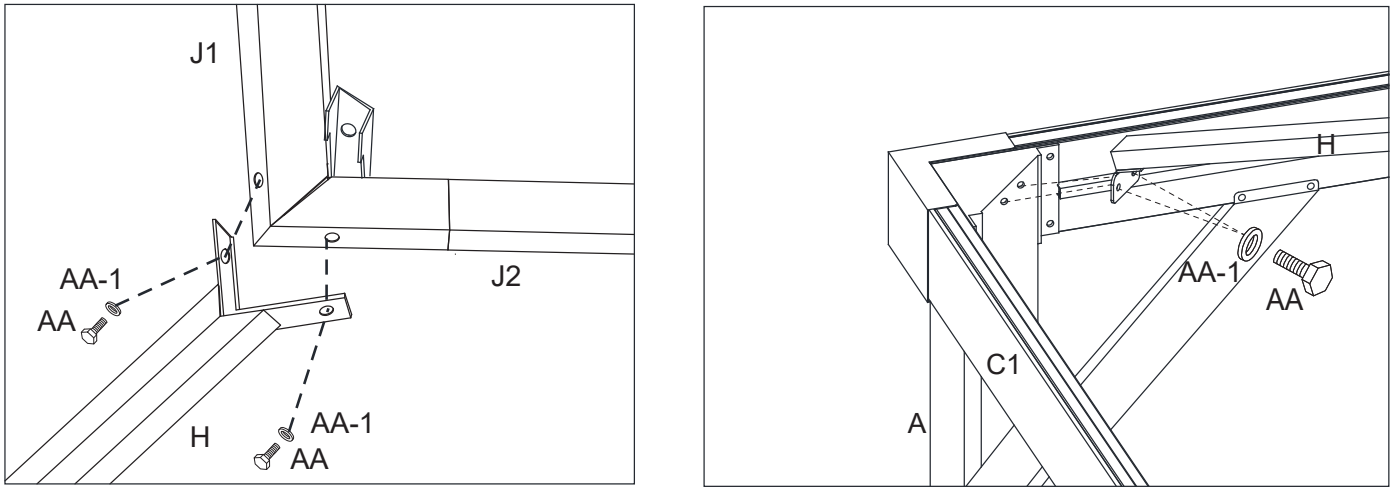

Figure 8-1
8.1 Assemble the Main Roof Corner Supports (H) to the Short Connector (J1) on the Main Roof Center Frame and the Corner Posts (A) using Bolts (AA) and Steel washer (AA-1). See Figure 8-1.